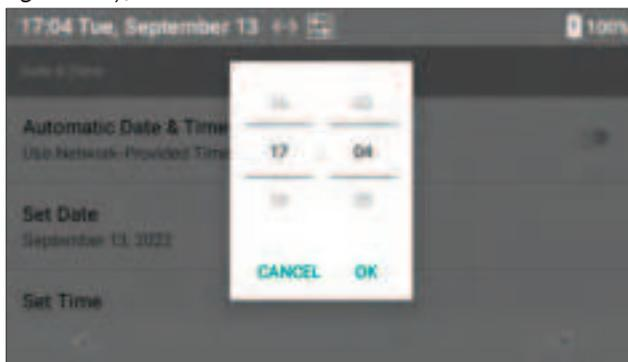

Figure 25: Set Time
- 4 In the dialog box (Figure 25), scroll the values for the hour and minute.